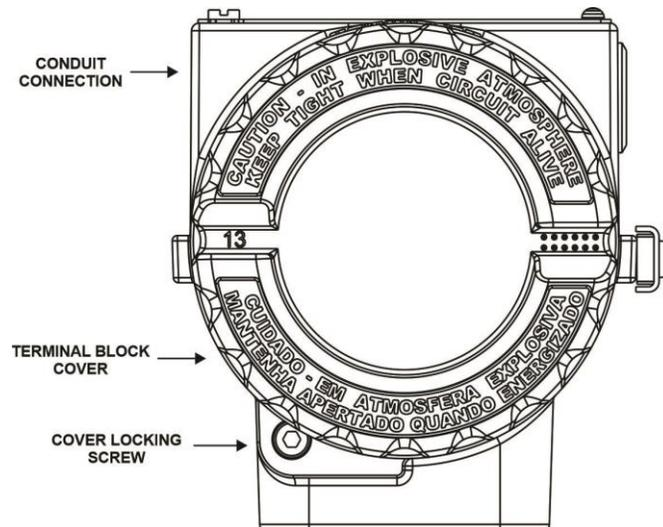

Figure 1.21 – Cover Locking Screw
1. Loose the cover locking screw and remove the terminal block cover as shown in figure 1.21.
1. Remove the terminal block cover as shown in figure 1.21.
1. Loosen the cover locking screw and remove the terminal block cover as shown in figure 1.21.
1. Loosen the cover locking screw and remove the cover, as shown in figure 1.21.